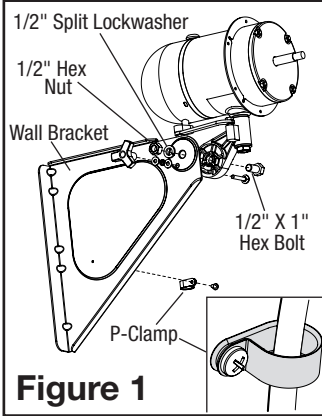

Figure 1
1. Locate the wall stud nearest to the desired fan location. Attach the wall bracket to the stud using (3) 5/16" diameter x 2" long lag screws.
2. Position the motor neck and align the pivot hole with the larger hole in the wall bracket (**Figure 1**).
3. Insert the 1/2" x 1" hex bolt (3/4" head) through the motor neck, and the upper tube assembly. Place 1/2" diameter split lockwasher then the 1/2" diameter hex nut (3/4" head) and tighten fully with a adjustable wrench (**Figure 1**).
5. Remove the #10-32 x 3/8" P-clamp screw located on the wall mount bracket and place the cord set inside the P-clamp. With cord set in the P-clamp, tighten the #10-32 x 3/8" screw back into place. Make certain that the cord set is not pulling tight from the back of the motor assembly (**Figure 1**).